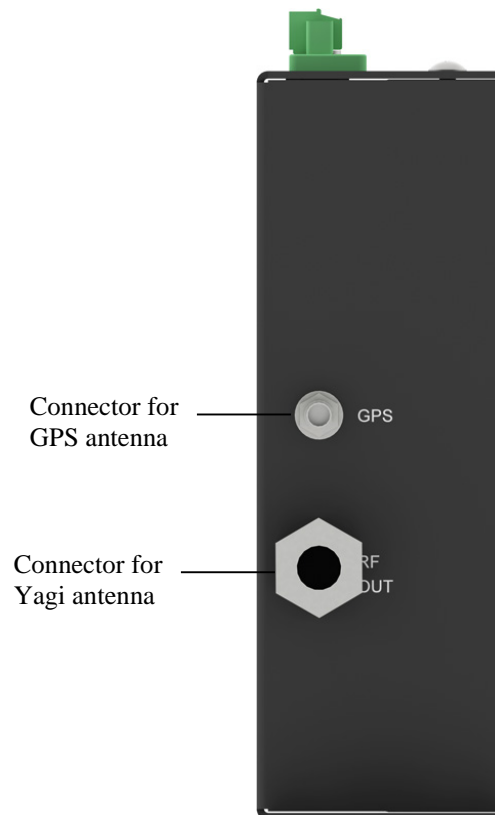
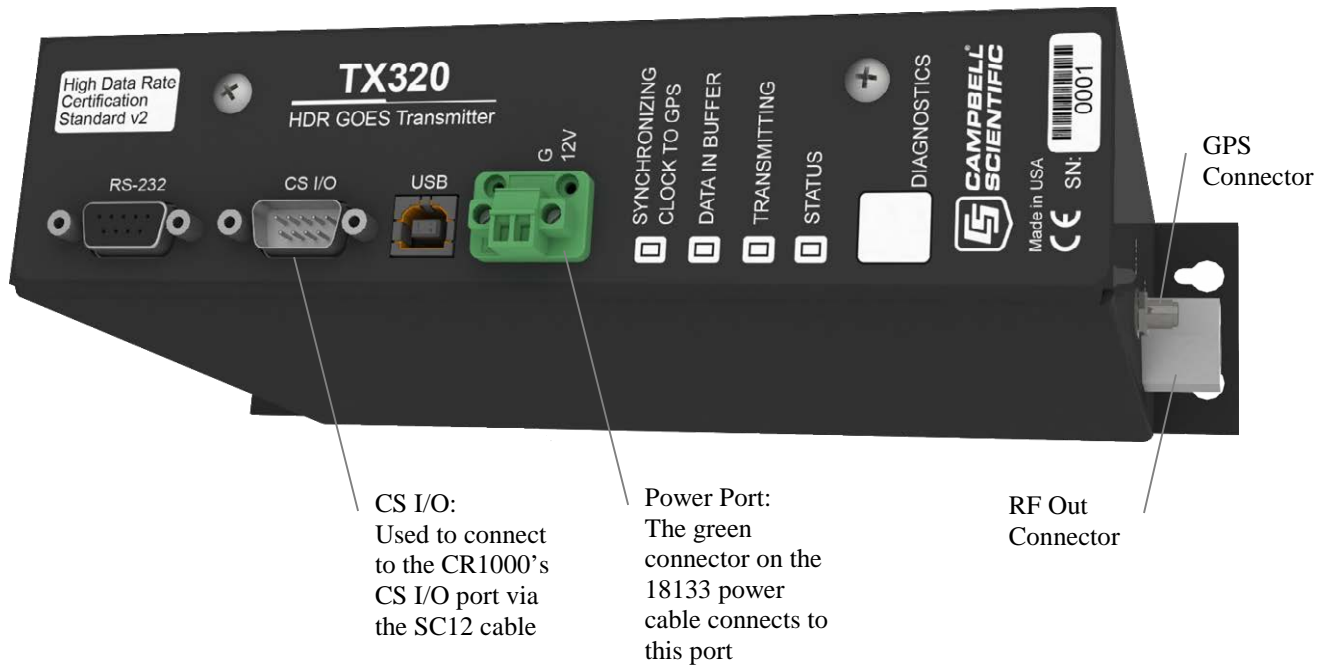
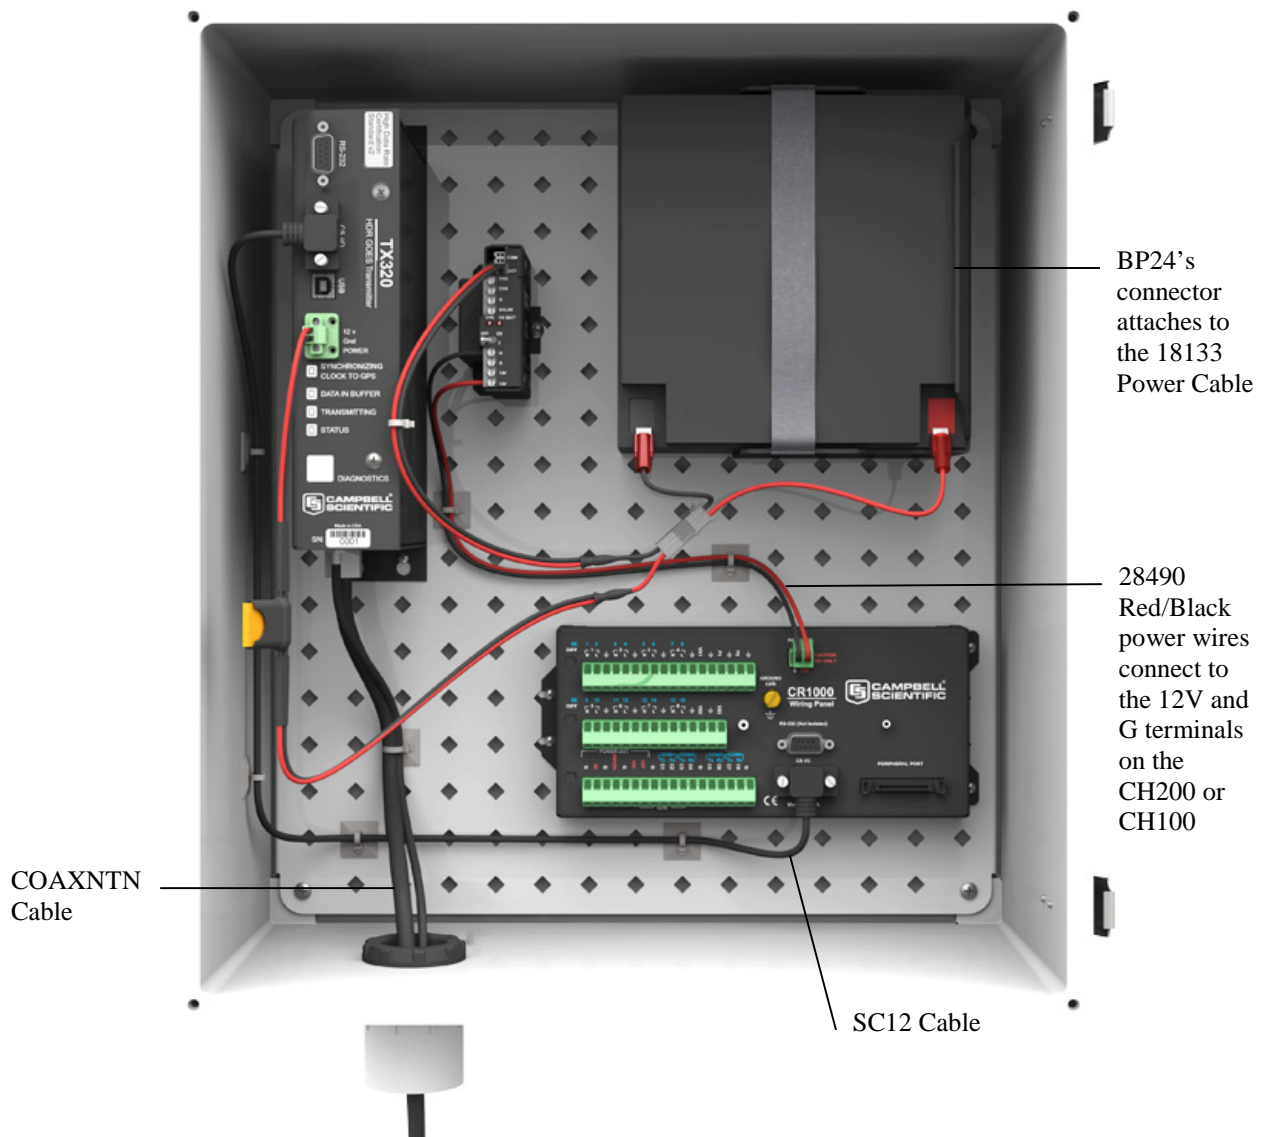

FIGURE 4-7. Antenna connectors
FIGURE 4-8. TX320 connectors
FIGURE 4-9. DCP enclosure
Refer to Section 4.1.1, *Accessing DevConfig* (p. 2), for information about accessing *DevConfig*. The transmitter's internal GPS can be used to acquire the azimuth and elevation information. To use the internal GPS device, connect the GPS antenna (see FIGURE 4-7). The information will be listed in the GPS tab of *DevConfig*.
7. Connect the COAXNTN cable to the Yagi antenna. Then route the COAXNTN cable through the enclosure conduit and connect it to the TX320 connector labeled RF Out (see FIGURE 4-7 and FIGURE 4-8).
8. Connect the TNC connector of the 18017-L cable to the GPS antenna. Route the 18017-L cable through the enclosure conduit and connect it to the TX320 connector labeled GPS (see FIGURE 4-7 and FIGURE 4-8).
9. Wire the TX320, CH100 or CH200 regulator, BP12 battery, and CR1000 according to FIGURE 4-8 and FIGURE 4-9.